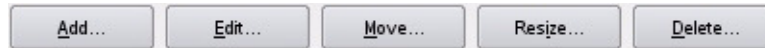

Figure 3-25 YaST2 – Add Button
- Under **Hard Disks**, select the disk you would like to partition and click **Add** at the bottom of the screen (Figure 3-25).